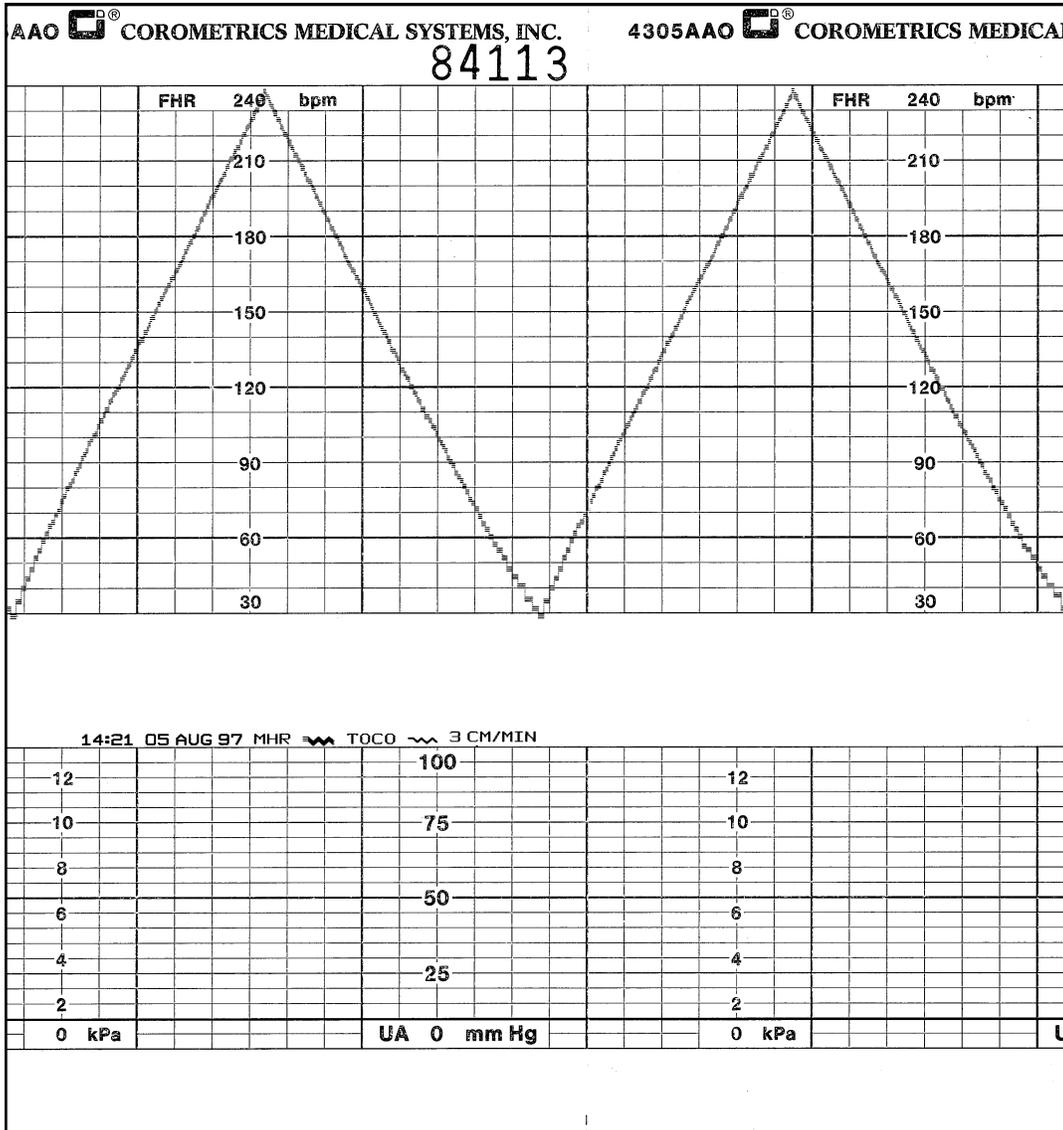

Figure 6-2. MECG Ramp
12. Set the simulator's **ECG Rate** switch to the RAMP setting. Verify that the monitor's MHR value counts between approximately 30 and 240 BPM and that the recorder prints a ramp between the same values. (Refer to Figure 6-2.)